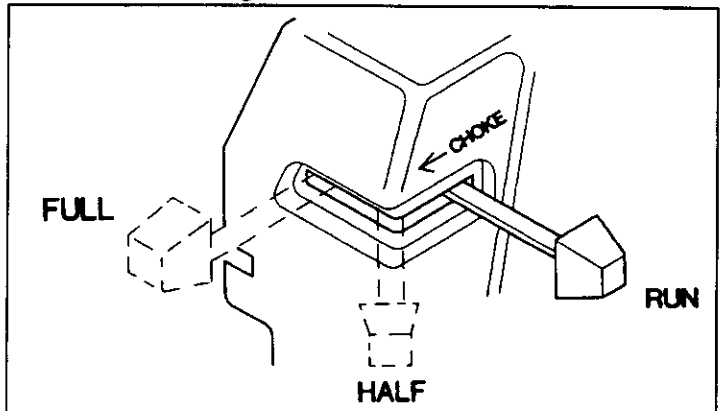

FIG. 7
- Close the choke to FULL position (Fig. 7) by sliding it to far position in direction indicated by arrow on air cleaner housing.